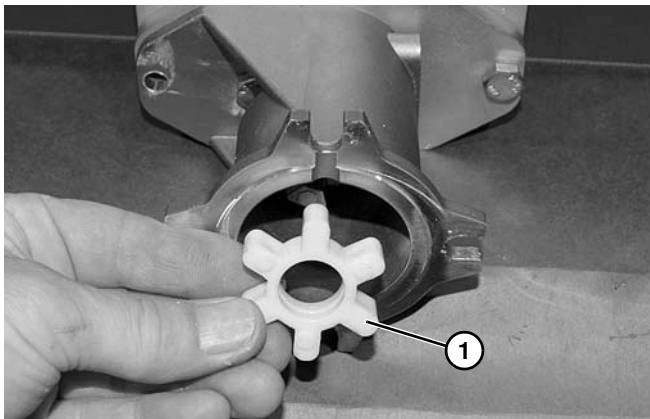

Figure 20
3. Insert spider (Figure 20, item 1) into 3 jaw coupling.